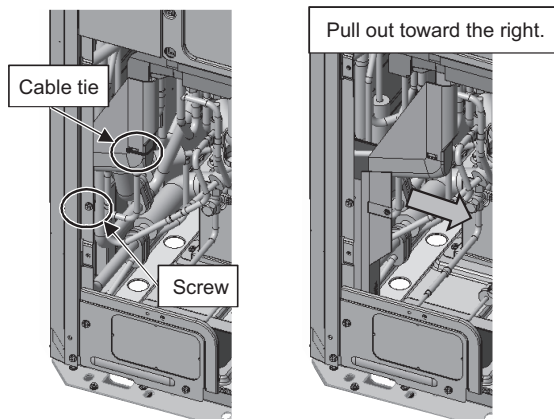

Figure 3
- (3) Cut the cable tie, unscrew the screw, and pull the drain cover out to the right. (See Figure 3.)